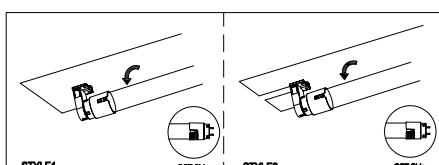

Figure 7
**STEP 7:** Rotate the lamp, select desired color temperature: 3500K, 4000K or 5000K. See Figure 7.